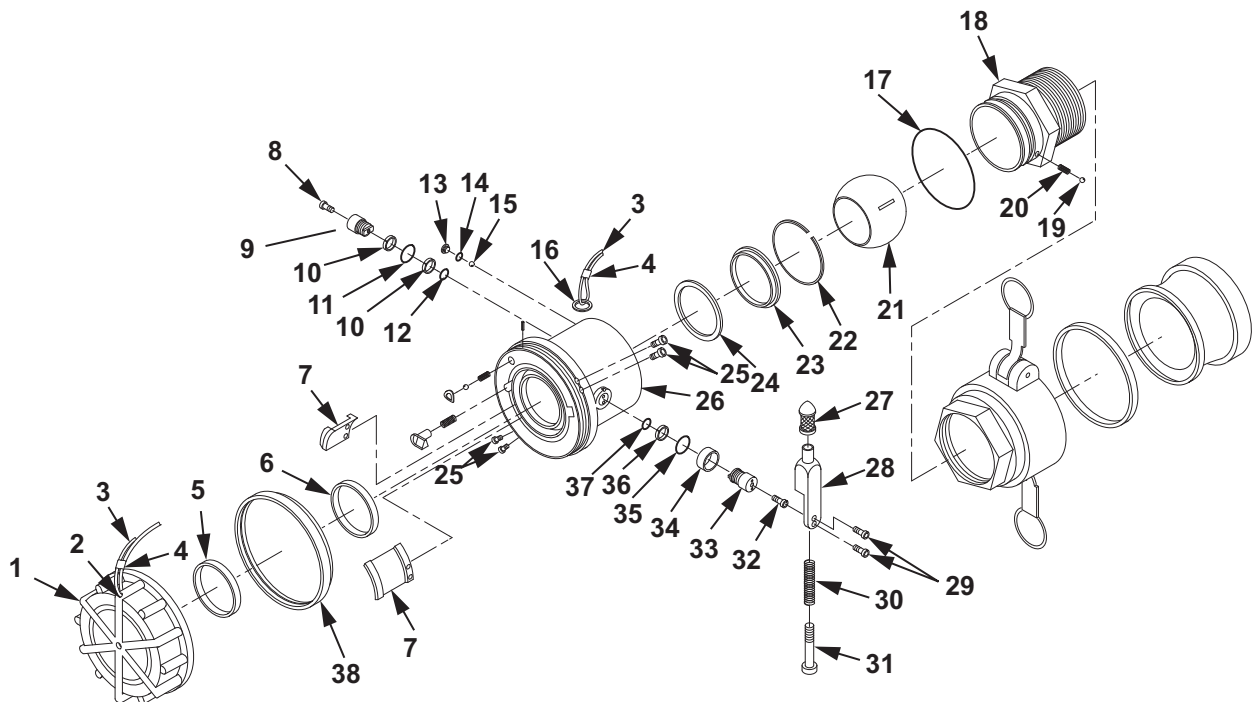
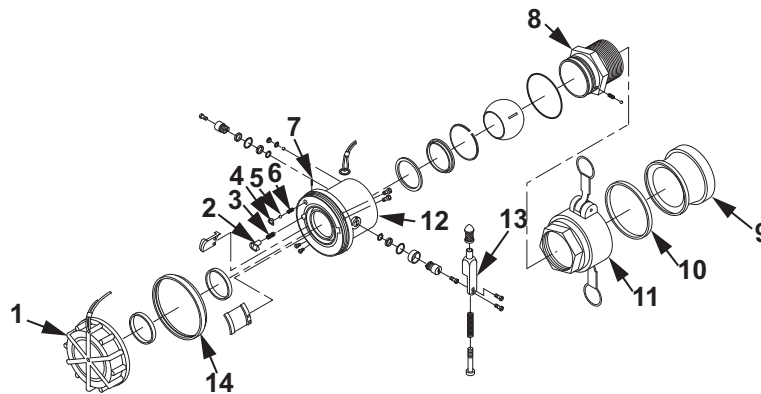

Figure 1. 4 In. Female Camlock X 3 In. Valved Dry-Break Adapter Disassembly.
Figure 2. 4 In. Female Camlock X 3 In. Valved Dry-Break Adapter Assembly.
4. Discard O-ring (Figure 1, Item 14).
Ensure all 41 ball bearings (Figure 1, Item 15) are accounted for during disassembly.
5. Hold coupling (Figure 1, Item 26) with screw hole toward cleaning cloth and rotate inlet fitting to allow ball bearings (Figure 1, Item 15) to fall onto the cleaning cloth.
When removing inlet adapter (Figure 1, Item 18), retain ball bearing (Figure 1, Item 19) and spring (Figure 1, Item 20).
6. Remove inlet adapter (Figure 1, Item 18) from coupling (Figure 1, Item 26).
7. Remove O-ring (Figure 1, Item 17) from outer groove of inlet adapter (Figure 1, Item 18).
8. Discard O-ring (Figure 1, Item 17).
9. Remove screws (Figure 1, Item 29) from control arm (Figure 1, Item 28).
10. Remove control arm (Figure 1, Item 28) from coupling (Figure 1, Item 26).
If it is necessary to disassemble control arm (Figure 1, Item 28), perform the following steps.
- a. Remove screw (Figure 1, Item 31) from control arm (Figure 1, Item 28).
- b. Remove spring (Figure 1, Item 30) from control arm (Figure 1, Item 28).
- c. Remove knob (Figure 1, Item 27) from control arm (Figure 1, Item 28).
11. Remove screw (Figure 1, Item 32) from upper shaft (Figure 1, Item 33).
12. Remove screw (Figure 1, Item 8) from lower shaft (Figure 1, Item 9).
13. Using one screw (Figure 1, Item 29), screw into end of upper shaft (Figure 1, Item 33) and remove upper shaft (Figure 1, Item 33) from coupling (Figure 1, Item 26).
14. Remove O-rings (Figure 1, Item 35, 37) from upper shaft (Figure 1, Item 33).
15. Discard O-rings (Figure 1, Item 35, 37).
16. Remove bushings (Figure 1, Item 34, 36) from upper shaft (Figure 1, Item 33).
17. Discard bushings (Figure 1, Item 34, 36).
18. Rotate ball valve (Figure 1, Item 21) to the open position and remove from inside coupling (Figure 1, Item 26).
19. Push out lower shaft (Figure 1, Item 9) from inside coupling (Figure 1, Item 26).
20. Remove O-rings (Figure 1, Item 11, 12) from lower shaft (Figure 1, Item 9).
21. Discard O-rings (Figure 1, Item 11, 12).
22. Remove bushings (Figure 1, Item 10) from lower shaft (Figure 1, Item 9).
23. Discard bushings (Figure 1, Item 10).
24. Remove retaining ring (Figure 1, Item 22) from coupling (Figure 1, Item 26).
25. Remove seal retainer (Figure 1, Item 23) from coupling (Figure 1, Item 26).
26. Remove seal (Figure 1, Item 24) from coupling (Figure 1, Item 26).
27. Discard seal (Figure 1, Item 24).